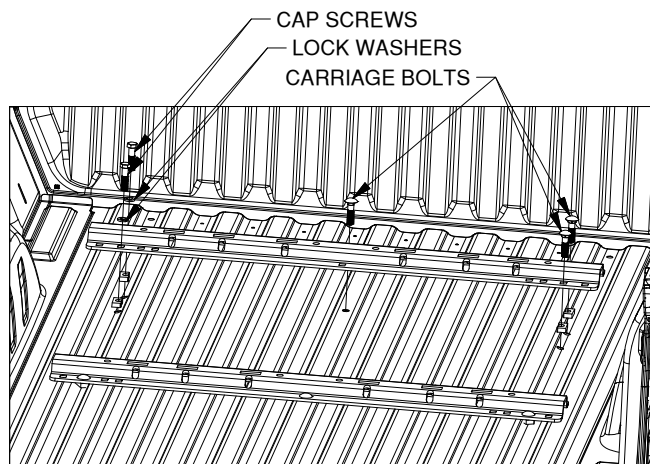

Figure D5: View looking into truck bed from rear of truck.
- 5. Install forward mounting rail.** Reposition the forward mounting rail over the drilled 9/16" holes in the bed. Install a 1/2" x 2" cap screw with lock washer through the two holes on the driver side of the rail, and a 1/2" x 2" carriage bolt through the remaining three holes, as shown in Figure D5. Position the U-shaped spacers.